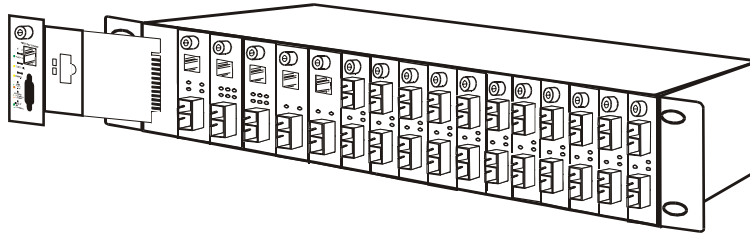

Figure 1. Slide in the management module in the first slot of the chassis system.
The chassis's first slot is for the management module as illustration on figure 1.
- Install the management module into the chassis. (Figure 1)